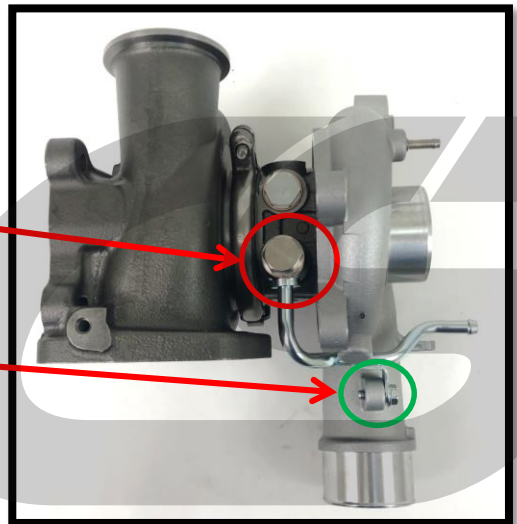
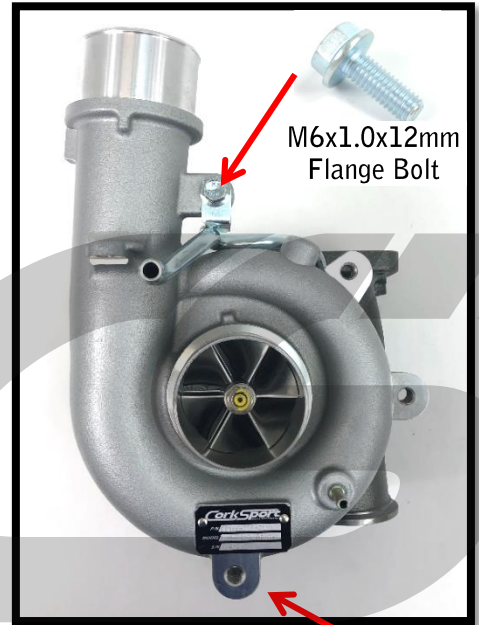

Figure 11b
Figure 11c
- b) Install the provided upper coolant line with the OEM 17mm banjo bolt and new provided copper crush washers and **Torque to 20 ft-lb.** Shown with the red circle in **Figure 11b**. Install the M6 10mm flange bolt provided. Shown with the green circle in **Figure 11b**. Also shown in **Figure 11c** on next page with a front view of the turbo.